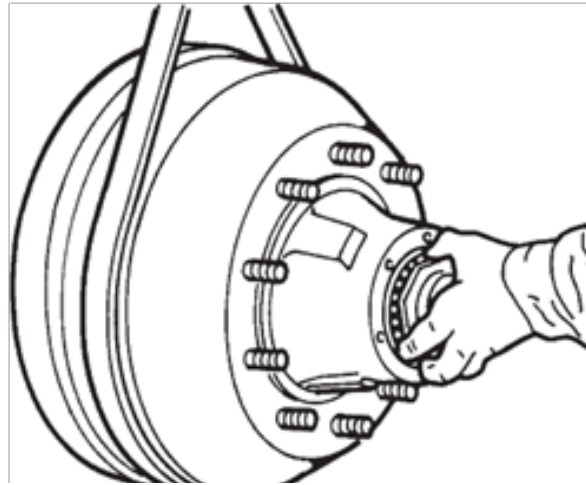

Fig. 25
- Slide the hub/drum assembly over the spindle and the brake shoes keeping the hub perfectly straight and aligned until it is in contact with the oil seal at the back of the spindle (see **Fig. 25**)